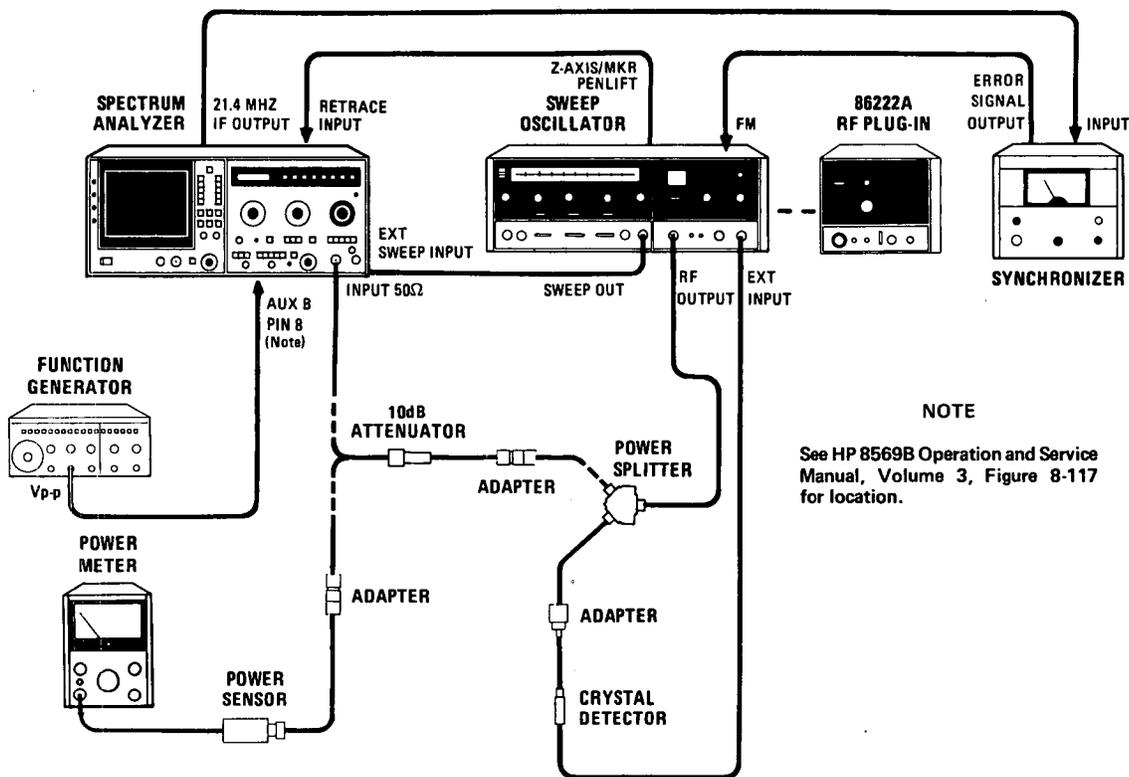

Figure 4-16. Frequency Response Test Setup
2. Using .01 to 2.4 GHz source, connect equipment as shown in Figure 4-16. Connect output of power splitter, through 10-dB attenuator, to power sensor. With RF power off, zero the power meter. Turn RF power on.